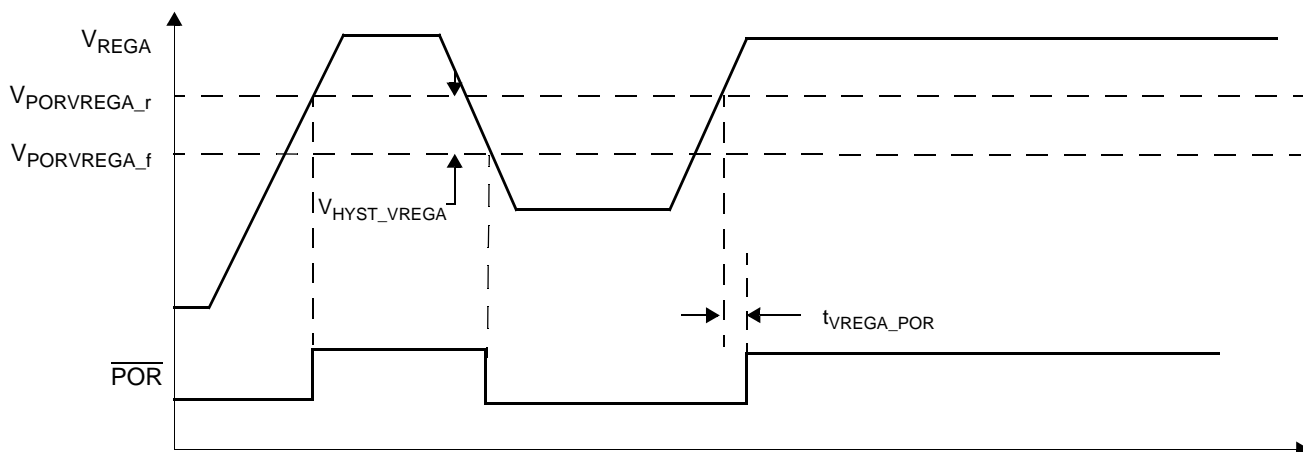

Figure 7. V_{REGA} Under-Voltage Detection
| 85 | V_{REGA} Under-Voltage Reset Delay (See Figure 7) $V_{REGA} < V_{PORVREGA_f}$ to POR assertion | t_{VREGA_POR} | — | — | 5 | μ s | (3) |